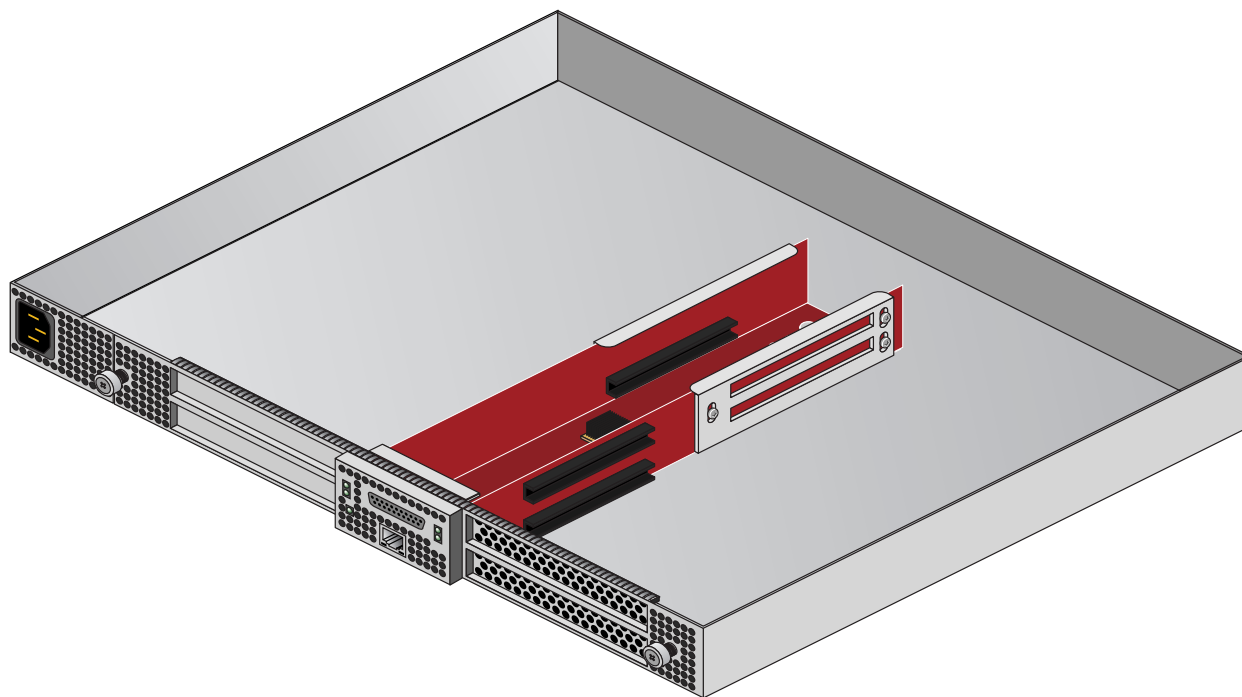

Figure 5-2 The PCIe Expansion Enclosure
1. Working from the front of the expansion chassis, locate the two “thumb screws” that hold the PCIe board “carriage” in the expansion chassis, see Figure 5-2 on page 62.